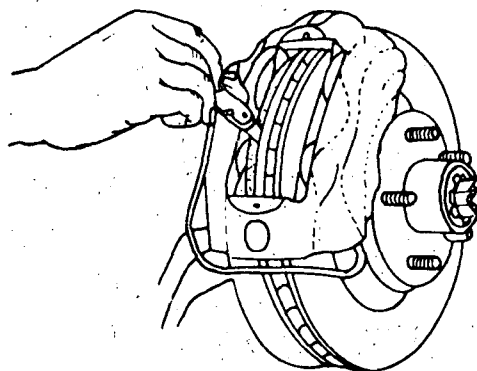

Fig. 10
- a) Check the clearance between the brake pads and the disc, making sure that it is within specifications (fig. 10).